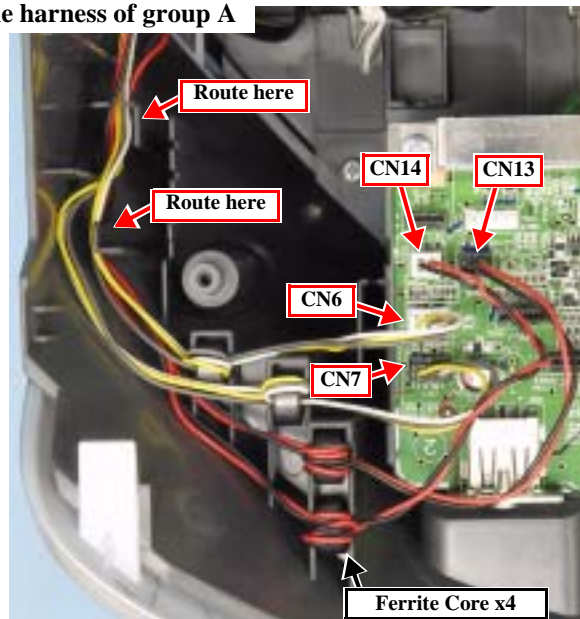

Figure 4-17. Routing the Harness and Setting the Ferrite Cores
4. Place the ferrite cores of group A as shown, and connect the connectors to the Main Board. (*Fig. 4-17*)